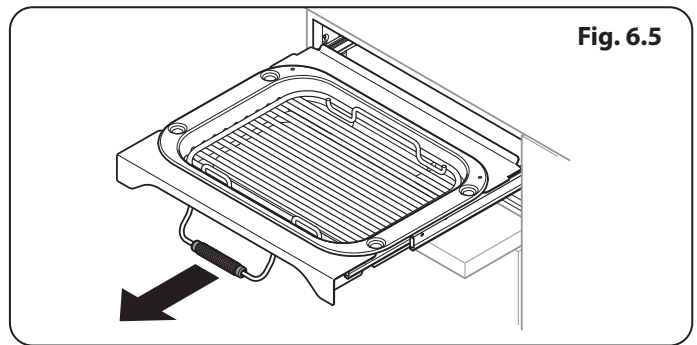
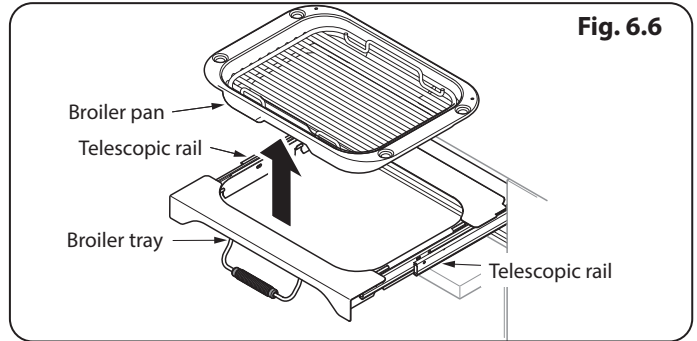

Fig. 6.5
Fig. 6.6
1. To remove the broiler pan, pull the tray assembly forwards (**Fig. 6.5**) and then lift the broiler pan clear of the broiler tray assembly (**Fig. 6.6**).